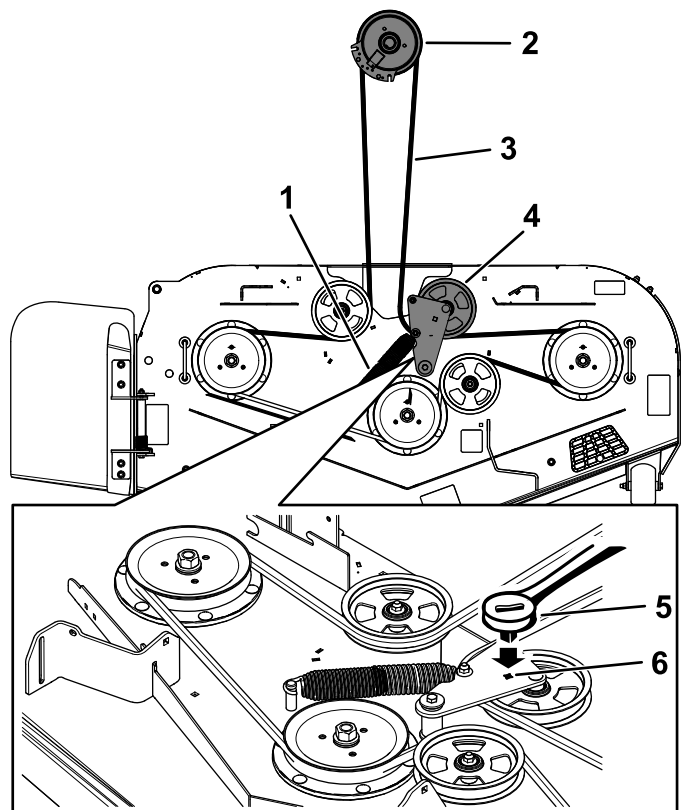

Figure 79
10. Install the belt guide on the idler arm (Figure 79).
11. Using the 3/8-inch ratchet in the square hole, install the idler spring (Figure 79).
5. Use a 3/8-inch ratchet in the square hole in the idler arm to remove tension on the idler spring (Figure 79).
7. Remove the belt guide on the spring-loaded idler arm (Figure 79).
9. Install the new belt around the mower pulleys and the clutch pulley under the engine (Figure 79).